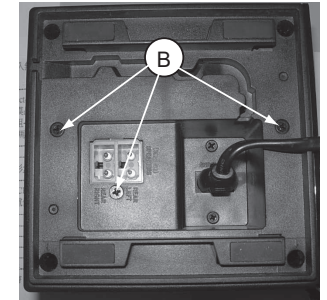

Figure 2
- 3 screws "B" on the bottom as shown in figure 2